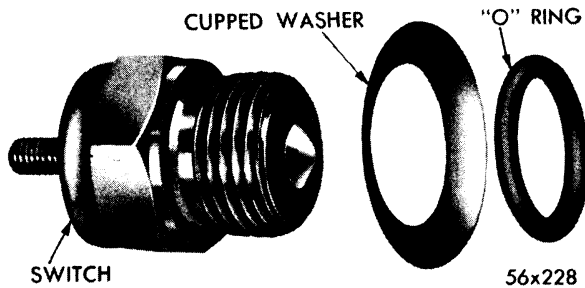

Fig. 18—Neutral Starting Switch (Disassembled)
14. INSTALLING AND TESTING NEUTRAL STARTING SWITCH (FIG. 18)